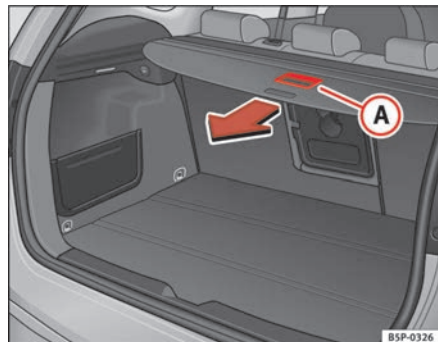

Fig. 124 Using the luggage compartment cover
- Use the handle **(A)** to pull the cover back until you hear a “click” ⇒ **fig. 124**.